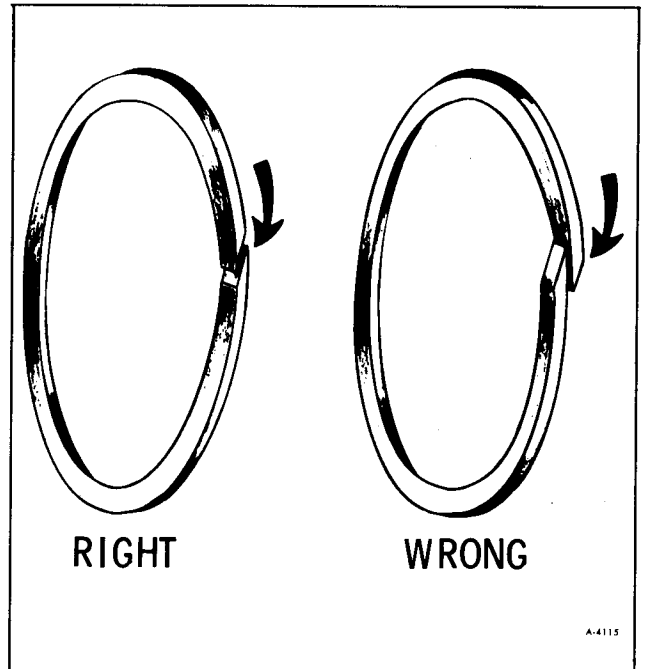

Figure 68—Installing Teflon Oil Seal Rings
**NOTE:** If teflon rings are being used, make sure slit ends are assembled in same relation as cut, Figure 68. Also, make sure oil seal rings are seated in ring grooves to prevent damage to rings during reassembly of mating parts over rings.